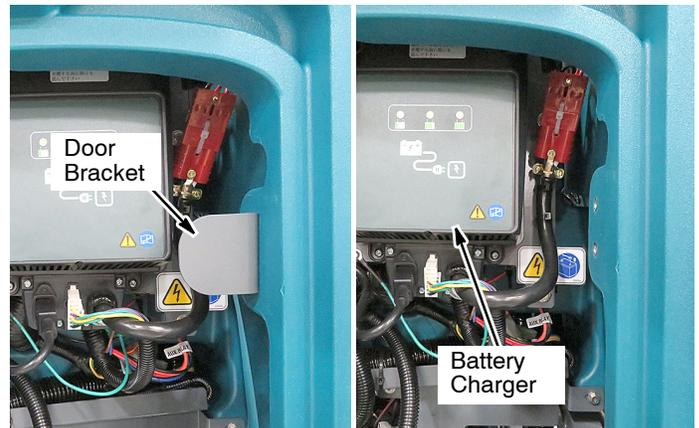

Fig. 2
4. Remove the door bracket to allow clearance to remove battery charger. The circuit board is located behind the battery charger (Figure 2).